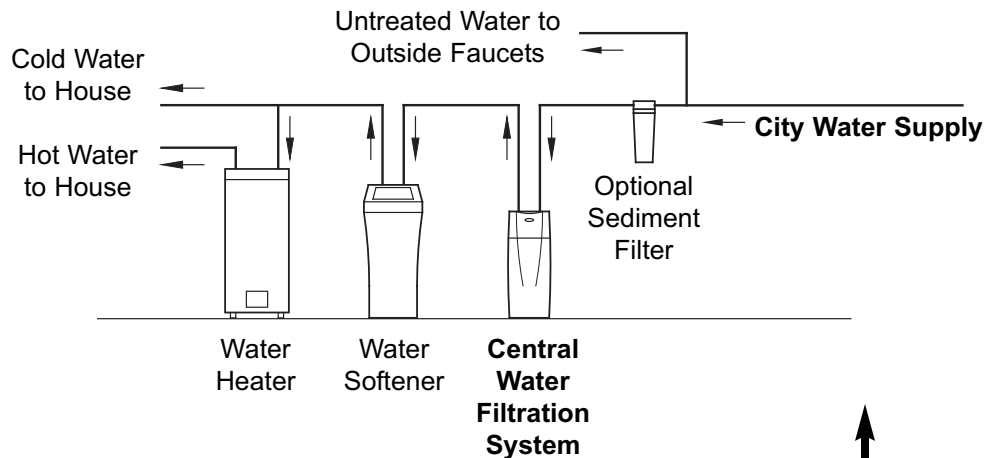

FIG. 3A
- Install the Central Water Filtration System between the home's incoming water supply and the water softener, if one is being used (See Figures 3A & 3B).
- Do not install the Central Water Filtration System on a hot water line (See Figures 3A & 3B, below).